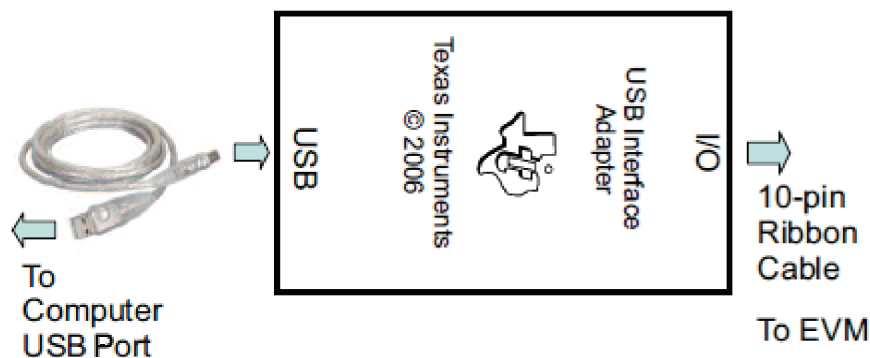

Figure 4. Connector Kit
- Connect J14 to the HPA172 kit with the 10-pin ribbon cable. Connect the USB port of the HPA172 kit to the USB port of the computer. The connections are shown in Figure 4.